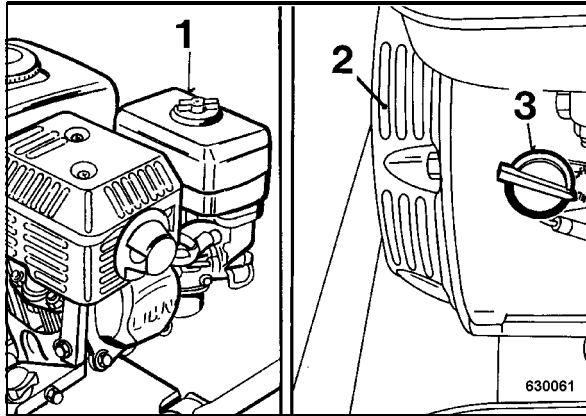

Fig. 25
Do not guide the water jet directly into air filter/ carburettor 1 (Fig. 25), starter/air intake (2) and ignition switch (3).